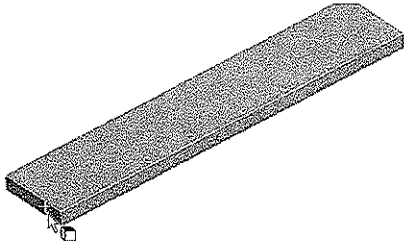

Figure 9-11 Face selected
- 4. Choose the **Face** tool from the **Select** toolbar to select the face to apply fixed support. Next, select the face of the model; the face turns green, as shown in Figure 9-11.